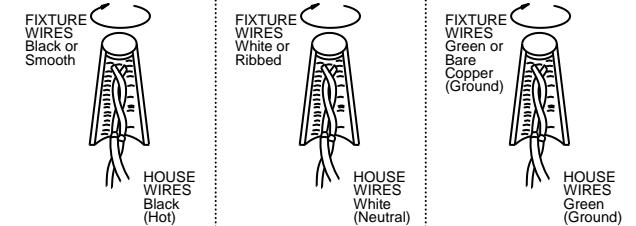

Fig. 3
8. Align the fixture body (C) onto the mounting plate (A) followed by plastic washer (J) and secure with screws (D).
9. To prevent moisture from entering the outlet box and causing a short, use clear caulking (i.e. Indoor/Outdoor Silicone Sealant) to outline the outside of fixture back-plate (C) where it meets the wall leaving a space at bottom to allow moisture a means to escape (Fig.3).
10. Install (1) one medium base bulb up to 60 watts (F) or CFL or LED equivalent (not included) in accordance with the fixture specification. **(DO NOT EXCEED THE SPECIFIED WATTAGE!) (NE PAS DEPASSER LA PUISSANCE NOMINALE MAXIMALE!).**